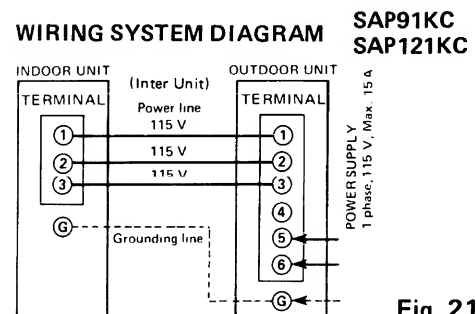

Fig. 21A
- Connect interunit power line per drawing (Figs. 21A & 21B) labeled alongside of the panel "C".